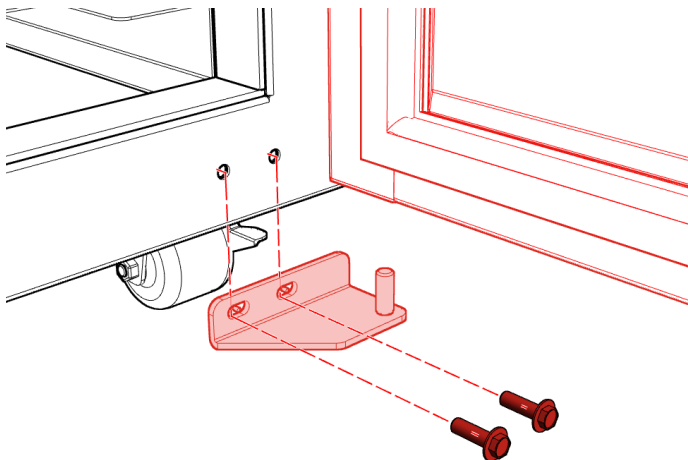

Fig. 9
Hold front-loading door open. Remove two (2) screws fastening bottom-right hinge to front of unit (Fig. 9). Reinstall screws into empty holes.